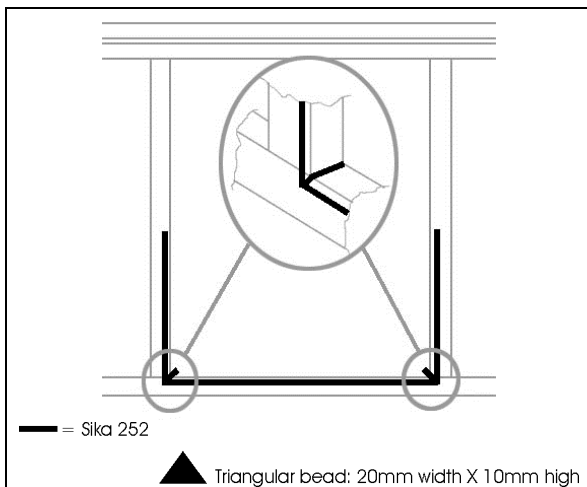

FIGURE 78 : SLIDING WINDOW - SIKa 252 APPLICATION
4. Apply Sika 252 as per FIGURE 78 (triangular bead: 20mm width X 10mm high [13/16"X 3/8"]).